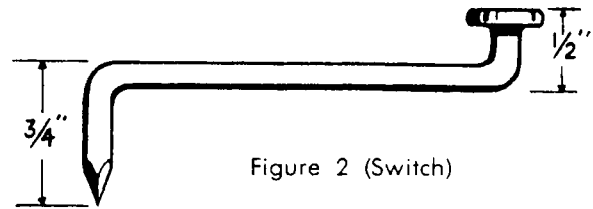

Figure 2 (Switch)
2. Bend the three-inch nail as shown in Figure 2, using pliers, vise and hammer.